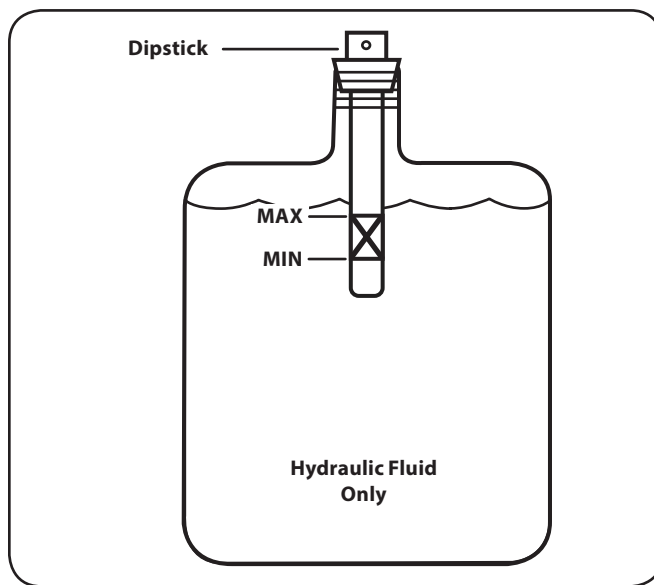

Figure 6-4
12. Refill the reservoir within range marked on the dipstick. See Figure 6-4.